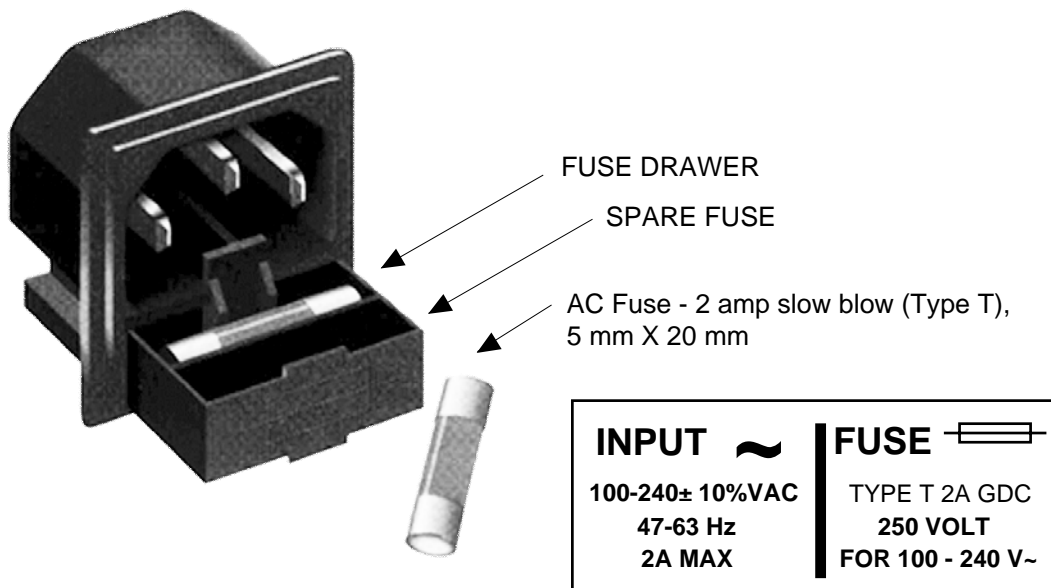

FIGURE 2.3 Fuse Location and Spare Fuse
5. AC Fuses - The fuses are 5 mm X 20 mm, 2 amp slow blow (Type T) and are inserted in the far slot in the drawer below the AC inputs as shown in Figure 2.3. There is a spare fuse in the near slot.